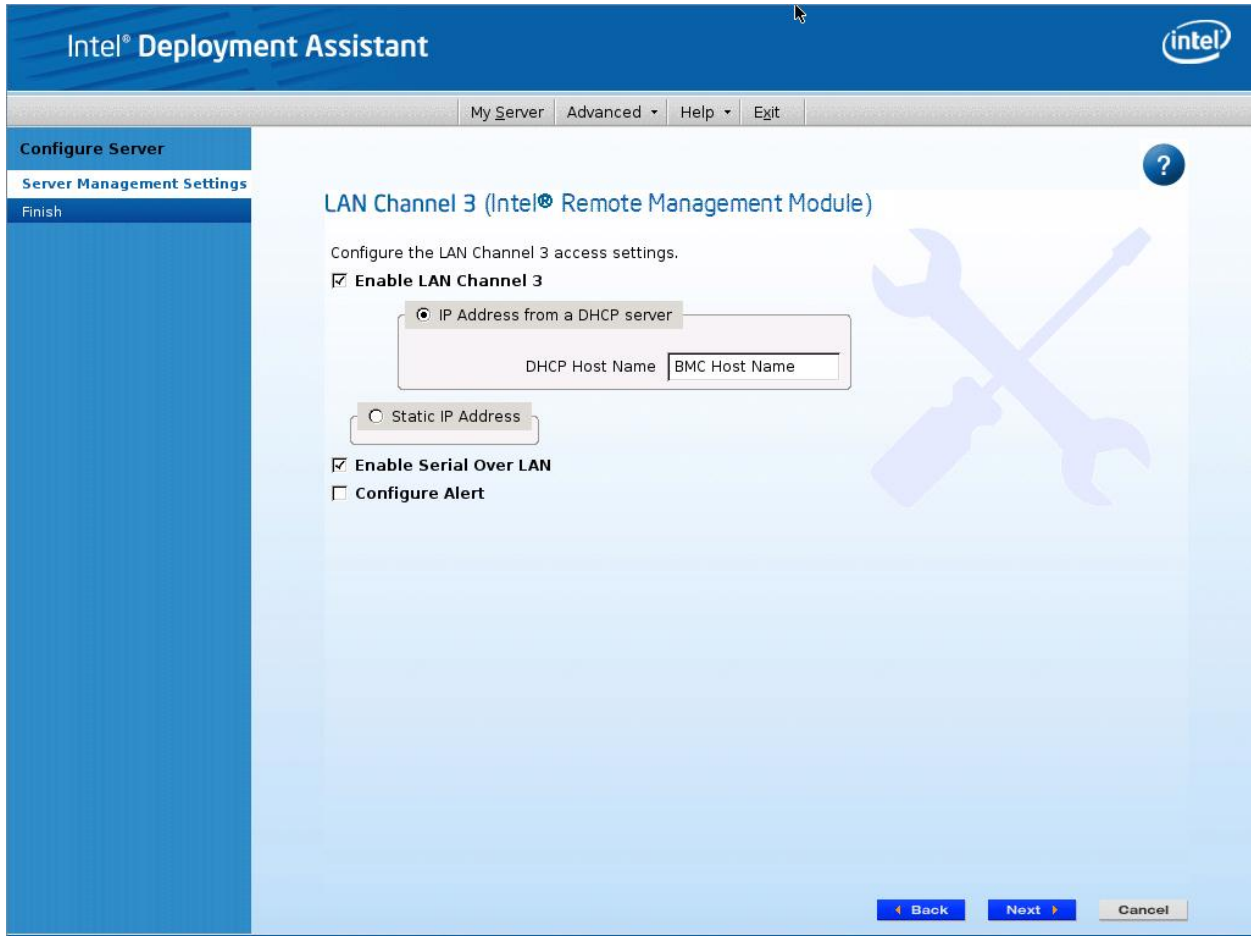

Figure 26: IDA Configure Server: Configure LAN Channel 3 (Intel® RMM4 DMN) IP Address from a DHCP server window
- a. If **IP Address from a DHCP Server** is selected, configure the **DHCP Host Name** as shown in Figure 26.